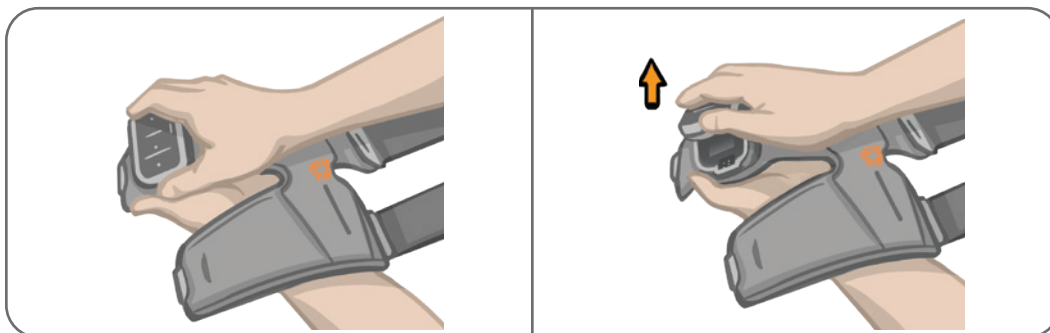

Figure 11-2: Removing the EPG
2. Pull the top of the EPG away from the cradle. See Figure 11-2.